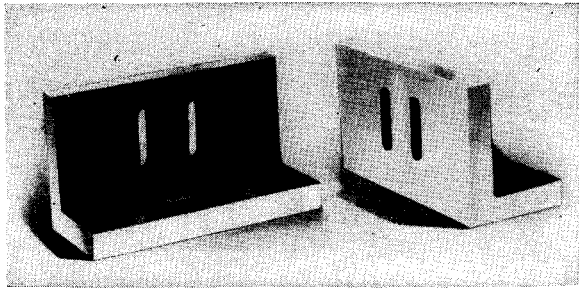

Fig. 2-18. Angle plates. (The Taft-Pierce Manufacturing Company)
*Angle Plates* (Fig. 2-18). Angle plates are of any size required and are usually made of cast iron. An angle plate is composed of two members, or wings, the outer surfaces of which are machined flat at an angle of 90 deg. to each other. When in use, one surface is bolted to the table and the work is fastened to the other surface. Some angle plates have one of the inner surfaces finished, which permits work being clamped or bolted to this surface when desirable. Holes are drilled where necessary for the clamping bolts. Sometimes tapped holes are more convenient for the purpose of clamping the work. Often C clamps are used for this purpose.